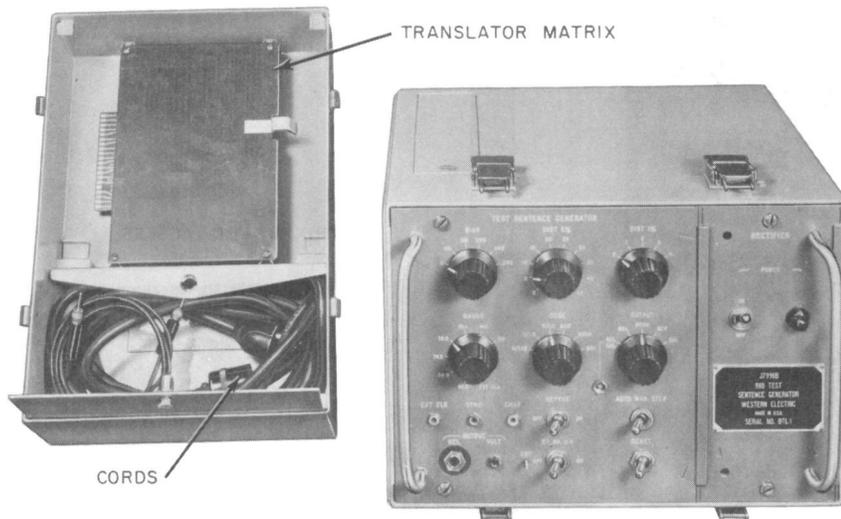

Fig. 3—J79911B-1 Test Sentence Generator With Cover Removed
1.05 The 911B TSG is available as an individual portable test set, including a rectifier, housed in a gray metal case measuring 11-1/2 inches wide, 8 inches high, and 11 inches deep and weighing approximately 20 pounds. The cover is used to store the test cords, power cord, and an alternate translator matrix printed wiring card if required (Fig. 3).
2.02 The 911B TSG (Fig. 3) is used as a source of low-speed data signals. The set is a